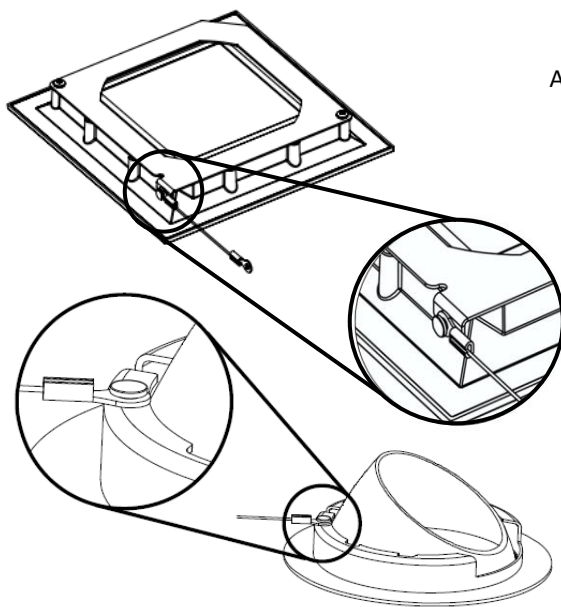

Fig.5
1. Pull tether down from light engine and connect to Trim Section as shown in (Fig.5).